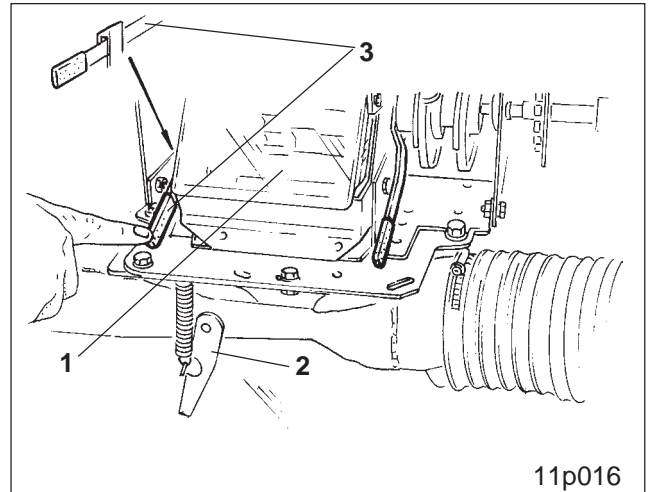

Fig. 16.1
- the transparent plastic flap (Fig. 16.1/1)
- the injector sluice flap (Fig. 16.1/2) und
For opening the emptying flap behind the metering unit, press lever (Fig. 16.1/3) downwards and arrest.